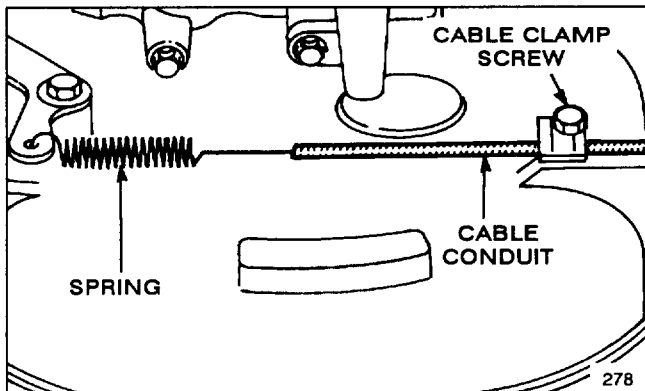

Figure 20
2. Loosen cable clamp screw until brake cable conduit slides (Fig. 20). Pull cable to remove slack, but do not put tension on spring. Tighten screw to lock adjustment in place.